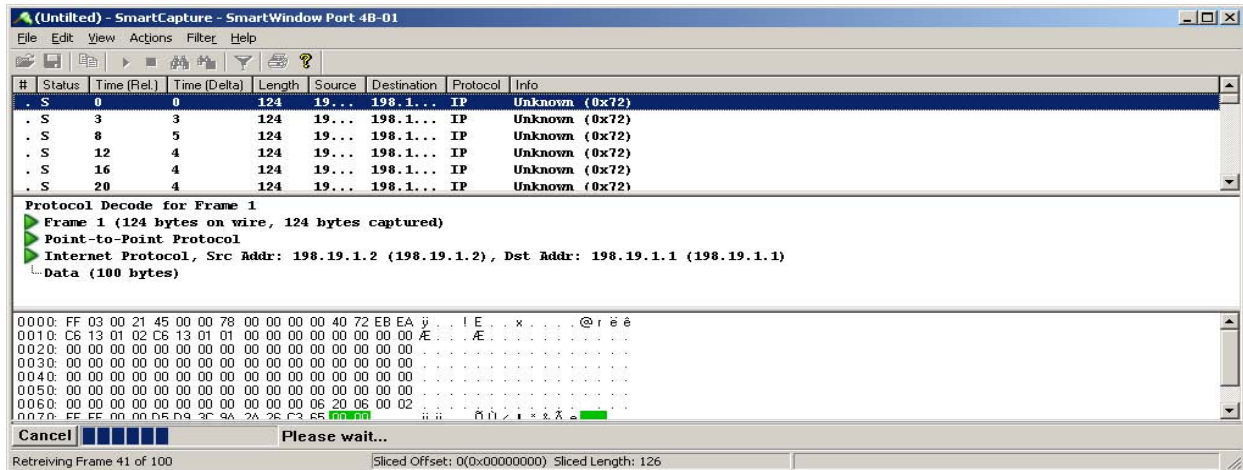

Figure 5-17. Capturing data in the Decoder View
- 6 Select **Display Capture Data** on the **Port** menu, or access the **SmartCapture** window and select **View** to view the test stream(s). (*Figure 5-17 on page 151* shows the *SmartCapture* window filling with the results.)